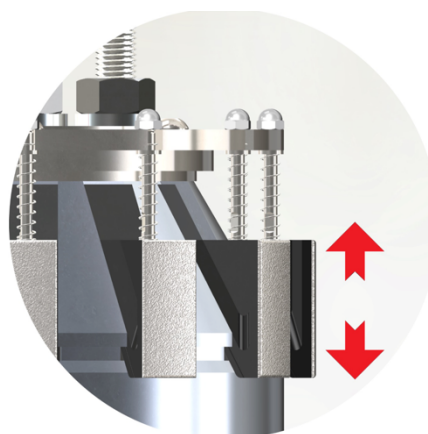

Figure 8:
- b. For GripSafe models without the Wedge Gripper Pre-Setter (Figure 8), ensure the Spring Plate is in the "Compressed" position. Slide each Wedge Gripper along its slot to confirm free and smooth motion. If any component shows signs of concern, STOP and replace it immediately.